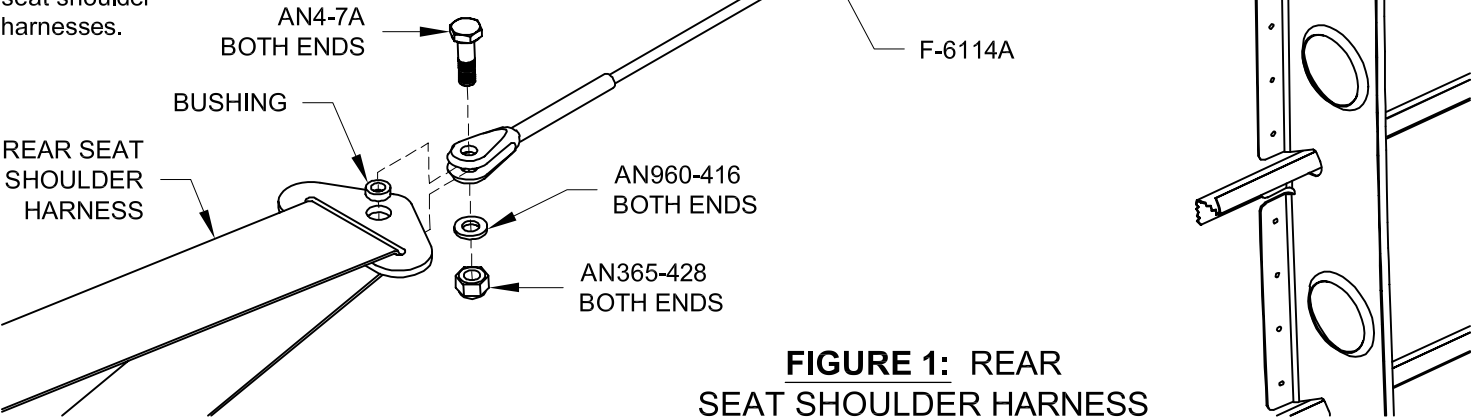

FIGURE 1: REAR SEAT SHOULDER HARNESS
Step 1: Attach one end of the F-6114A Shoulder Harness Cables to the F-636 Shoulder Harness Anchors using the hardware called-out in Figure 1. No bushings are needed at this end.